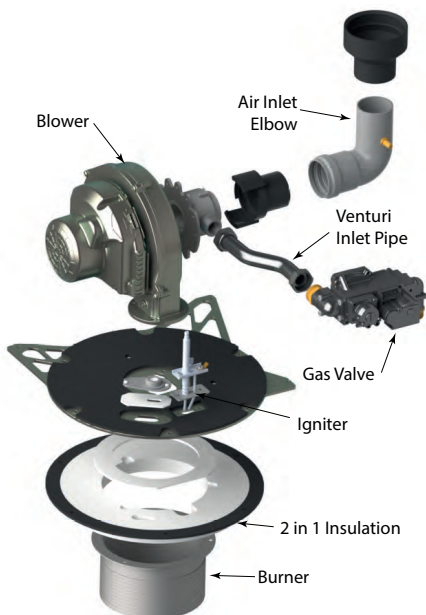

Fig. 3: Exalt 199 Burner Assembly
1. Align the burner/combustion chamber insulation with the gas valve facing the front of the boiler. See Fig. 1, Fig. 2, Fig. 3.